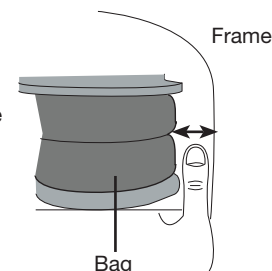

Fig. 13
5. Align the air spring uniformly between the upper and lower brackets and check the air spring alignment (Fig. 13).